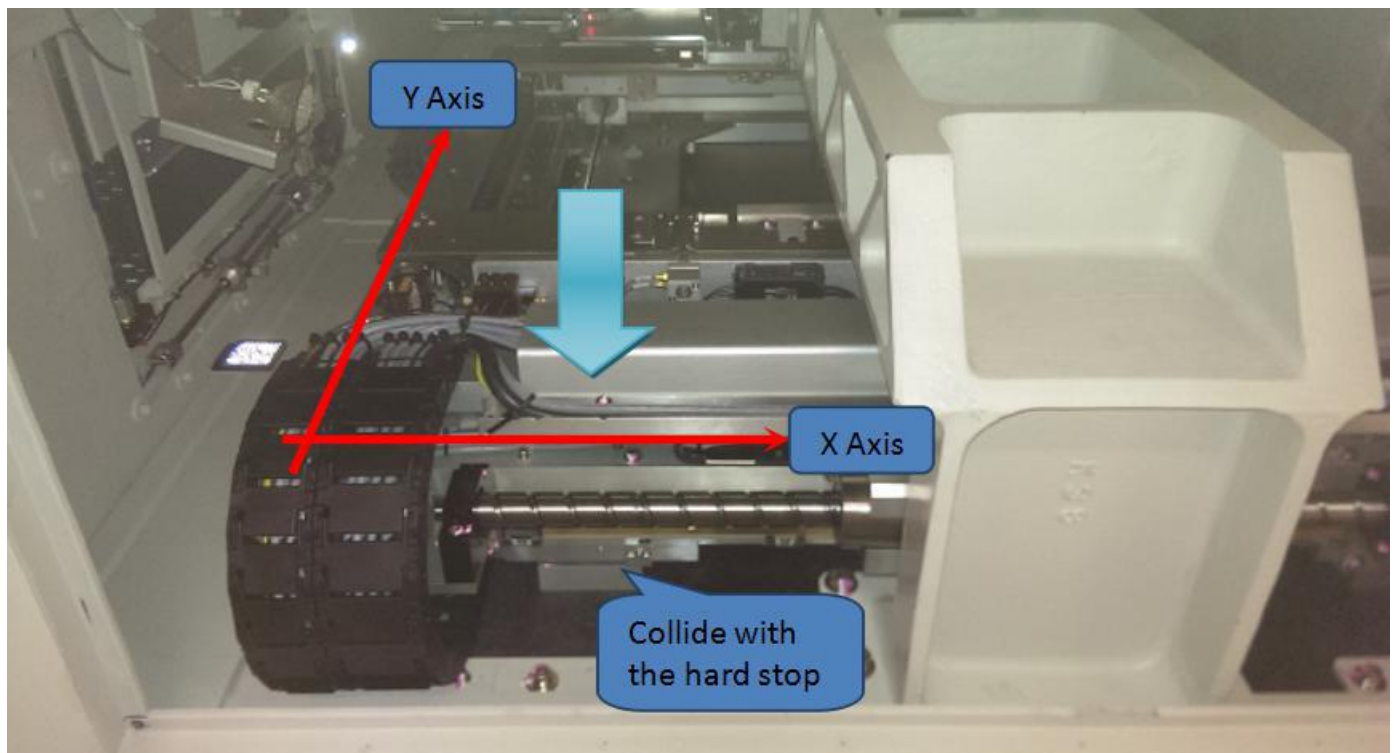

Figure 15 Minimum hard stop
26. Push the stage towards the minimum hard stop (front access door) as shown in below Figure 15.